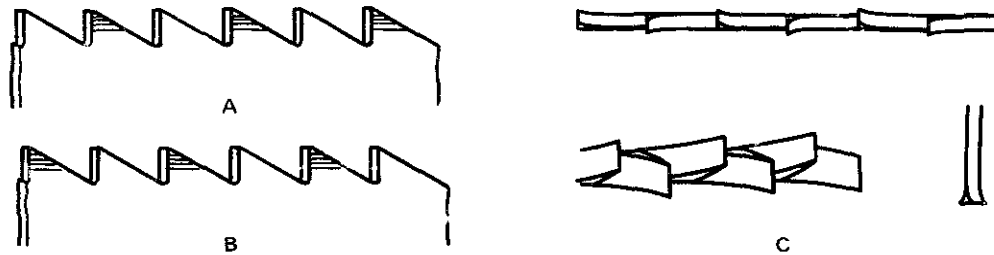

Fig. 7-18 Setting ripsaw teeth.
4. Set each alternate tooth in the same way. See the shaded portion of teeth in A, figure 7-18.
5. Reverse the saw clamp and set the other alternate teeth. When all of the teeth on both sides of the saw are set, they should look like those shown in C, figure 7-18.